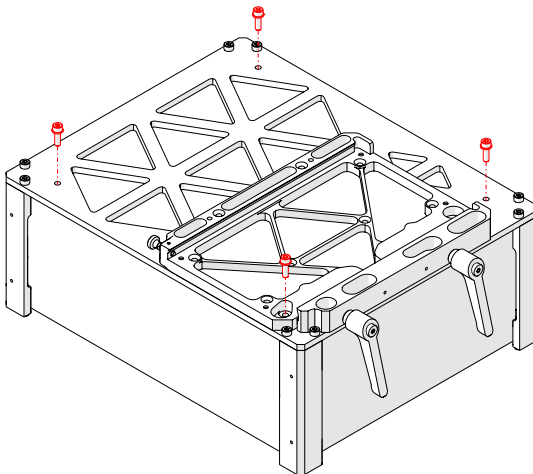

Fig. 91 - Secure with hardware
4. Secure the 3rd party instrument to the bottom half of the instrument box frame with hardware (Fig. 91).